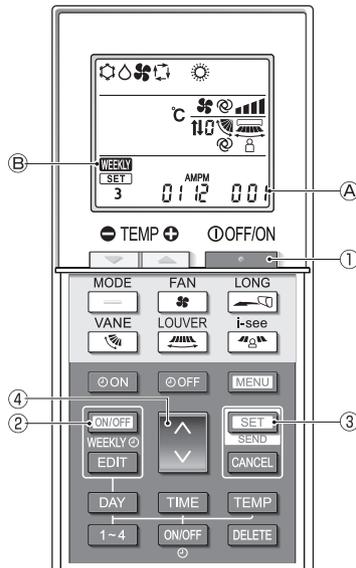
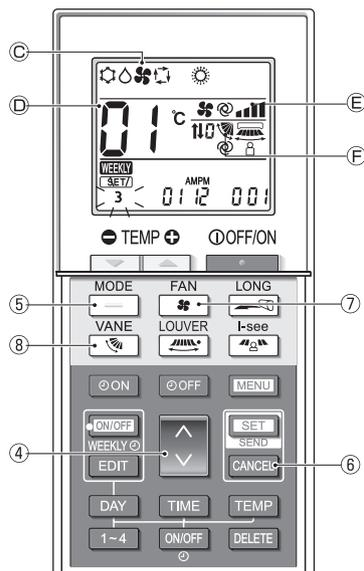

Fig. 4-1
Fig. 4-2
1. Switching to the function setting mode (Fig. 4-1)
- Press the **ON/OFF** button ① to stop the air conditioner.
- If the weekly timer is enabled, press the **ON/OFF WEEKLY** button ② to disable the timer. (**WEEKLY** ③ disappears.)
- Press the **SET** button ③ for 5 seconds.
- The remote controller enters the function setting mode. (The group model setting number ④ blinks.)
2. Entering the group model setting number (Fig. 4-1)
- Press the **MODE** button ④.
3. Separate settings mode 1 (Fig. 4-2, Fig. 4-3)